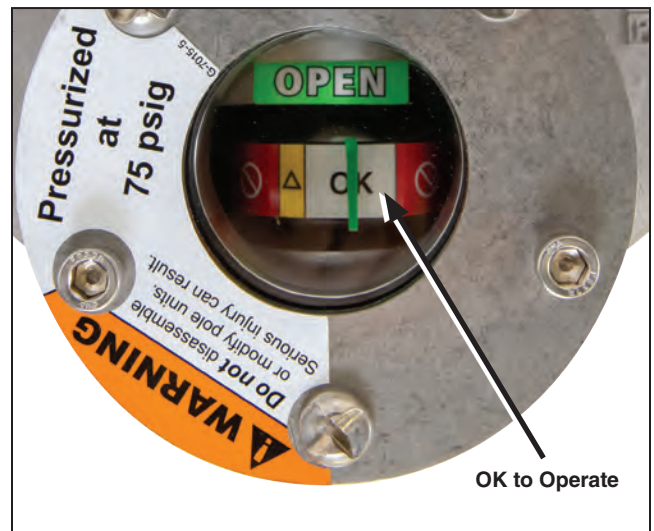

Figure 70. Make sure the indicator reads “OPEN.” Make sure the gas-pressure gauge on each interrupter is in the OK to Operate zone.
- STEP 3.** Verify the interrupters are in the **Open** position and each gas-pressure gauge on the underside of the interrupter is in the OK to Operate zone. See Figure 70 on page 47.